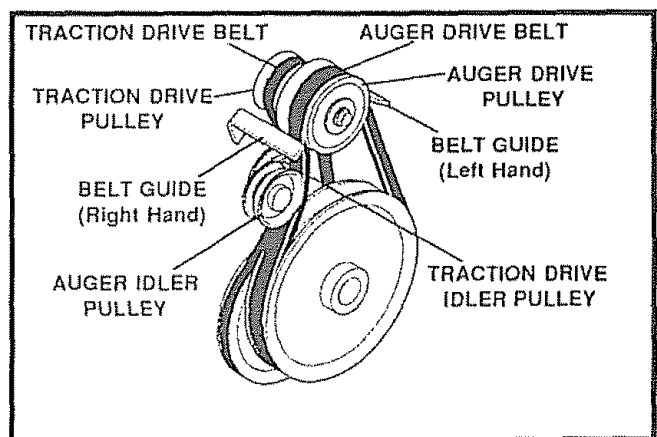

FIG. 27
- Loosen the belt guides (See Fig. 27) and pull away from the engine drive pulley.
- Loosen nut on the idler pulley (See Fig. 27) and pull idler pulley away from the belt.
## TRACTION DRIVE BELT (See Fig. 27)